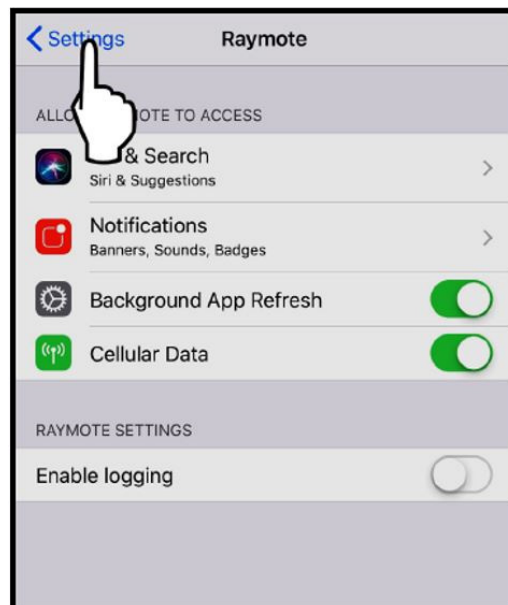

Figure 98. Select "Settings" Menu
5. On the top left corner of the screen, press the "Settings" button to go the Settings menu. See Figure 98.